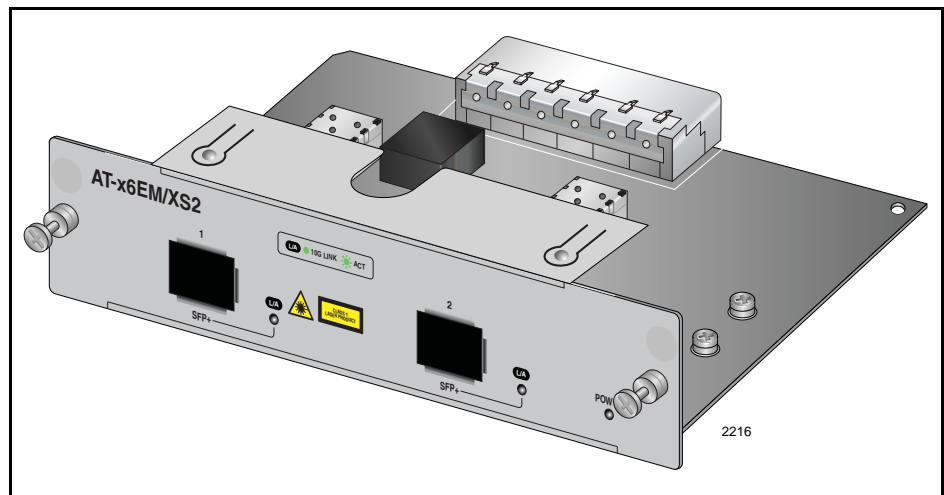

Figure 40. AT-x6EM/XS2 Stacking Module
- ❑ The AT-x6EM/XS2, shown in Figure 40, has two 10 Gbps SFP+ stacking slots.